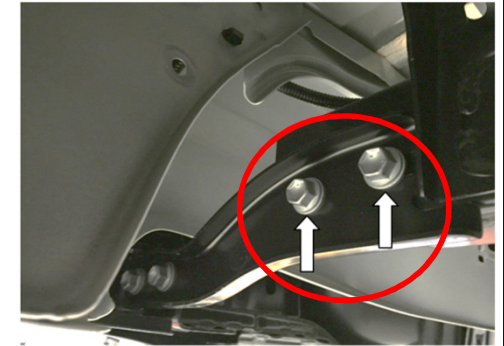

Figure 2
1. Rear bumper removal – remove (2) M12 bolts on the bumper bracket from frame rail each side, see Figure 2.